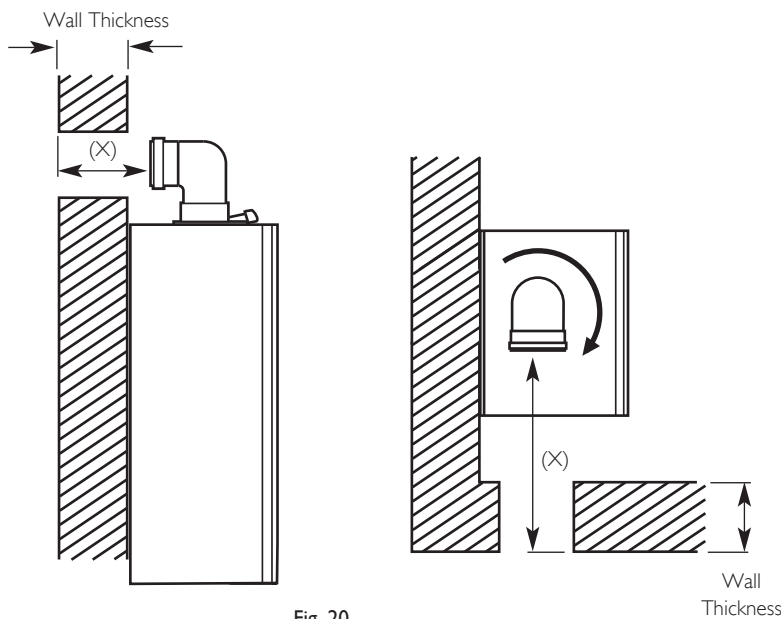

Fig. 20
3. Locate the flue elbow on the adaptor at the top of the boiler. Set the elbow to the required orientation (Fig. 20).
4. Measure the distance from the outside wall face to the elbow. This dimension will be known as 'X' (Fig. 20).
5. If the distance from the flue elbow to the outside face of the wall ('X' in Fig. 20) is less than 250mm the Connection Assembly can be discarded and the Terminal Assembly fitted directly into the elbow.
6. In instances where the dimension 'X' (Fig. 20) is between 250mm and 315mm it will be necessary to shorten the Terminal Assembly by careful cutting to accommodate walls of these thicknesses.